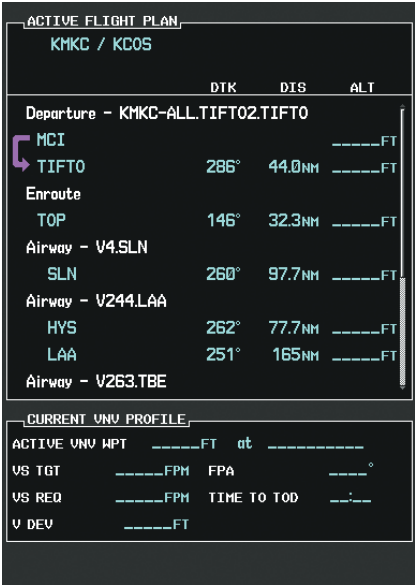

Figure 5-109 V4 is Loaded in the Flight Plan
l) V4 is now loaded into the flight plan as shown in Figure 5-109.